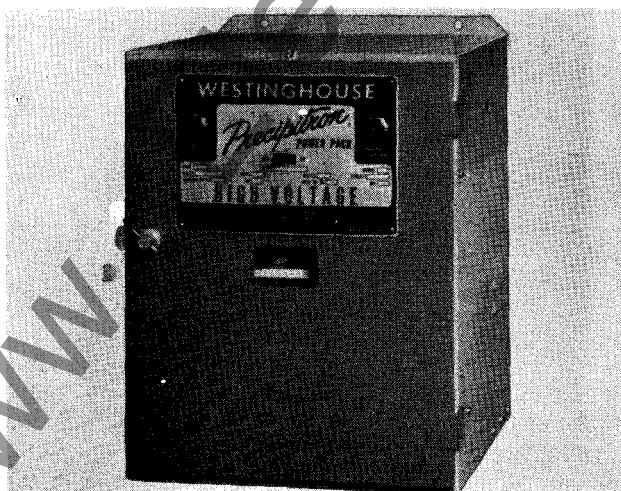

Fig. 27. Power Pack
**Power Packs** (Fig. 27) should be installed outside the duct, either on the duct wall, if sufficiently braced, on an adjacent building wall, or on a suitable mounting stand. If several power packs are supplied, group them together. Allow at least 6" space vertically between power packs, if mounted one above the other. Be sure the power packs are mounted close to the end of the frame bank. Additional high voltage cable will be required if the cable run to the nearest top plate exceeds 15 feet. Refer to instruction book packed inside the power pack for further details.